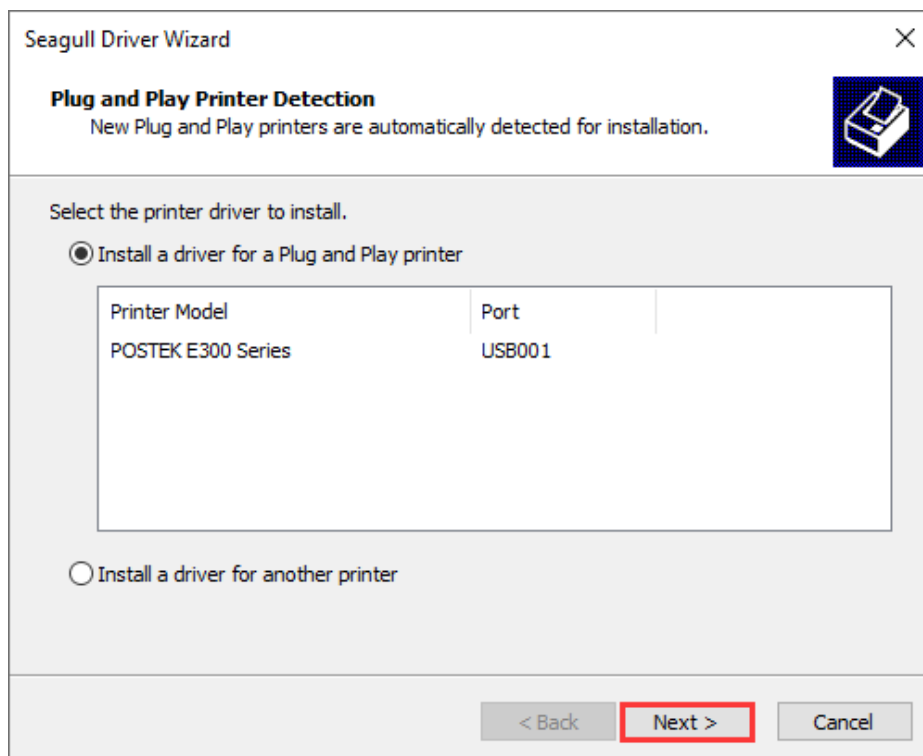

Figure 2-24 Printer Detected
7. The connected printer will be detected (POSTEK E300 Series for example), click “Next”, as shown in Figure 2-24.